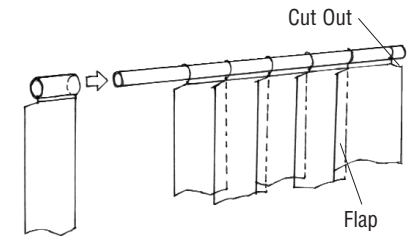

Fig. 7
**NOTE:** The first strip should have a cut out. The remaining strips should be placed on the pipe so that all the flaps are facing in the same direction. See Fig. 7